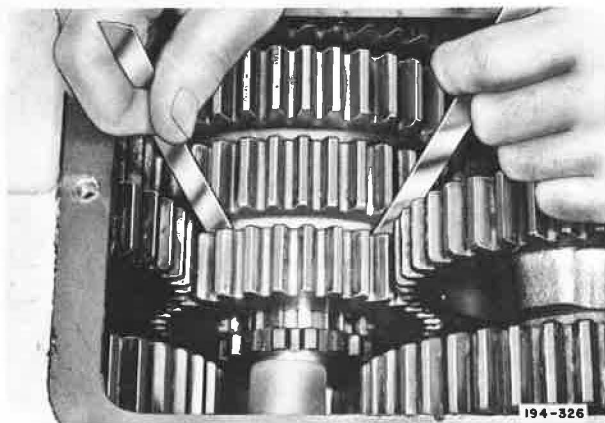

Figure 5-203. Checking Mainshaft Gear End-play
18. With two feeler gages, check between third and fourth speed gear for recommended end-play. See Figure 5-203. Refer to "Screw Torques and Adjustment Chart" for selective thrust washers to obtain recommended end-play.